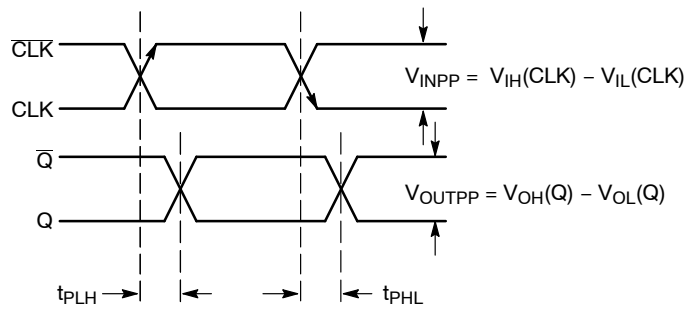

Figure 5. AC Reference Measurement
23. See Figure 5.  $t_{\text{SKEW}} = |t_{\text{PLH}} - t_{\text{PHL}}|$  for a nominal 50% Differential Clock Input Waveform.
28. See Figure 5.  $t_{\text{SKEW}} = |t_{\text{PLH}} - t_{\text{PHL}}|$  for a nominal 50% Differential Clock Input Waveform.